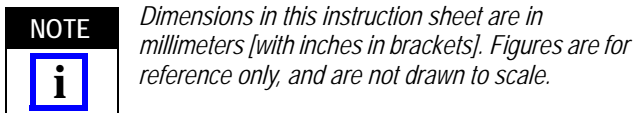

Figure 1
This plug connector assembly consists of: an Ethernet insert, snap ring, 2-piece connector body (pre-assembled), "O"-ring, coupling ring, and a sealing nut. Refer to Figure 1.
1. Insert the "O"-ring into the position as shown in Figure 1.
2. Insert the coupling ring in the direction shown in Figure 1, with the heavy grooves towards the back of the connector body.